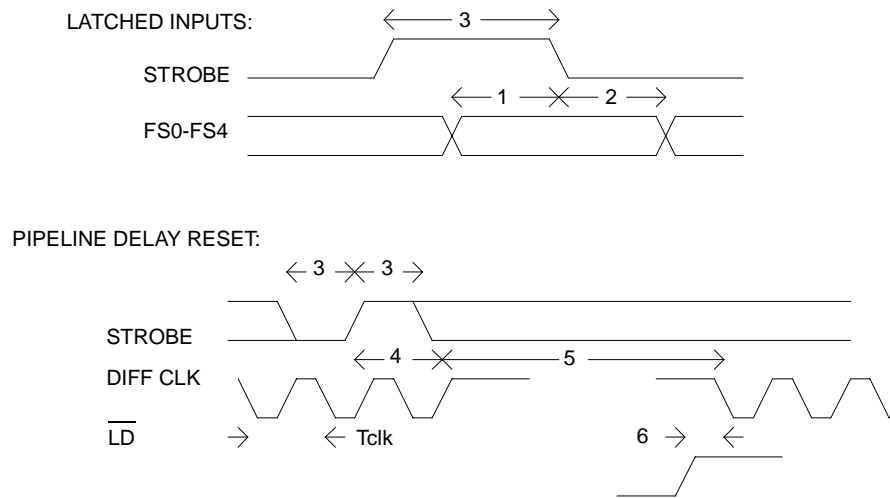

Figure 4
See Figure 4 for a diagram of the clock sequencing.
- See Figure 4.